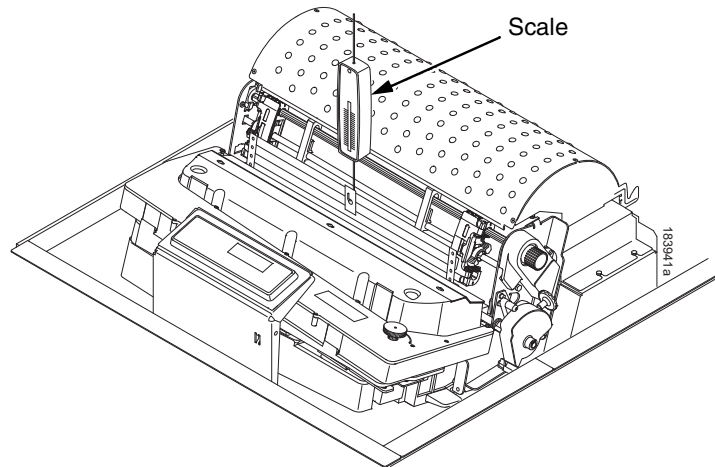

Figure 18. Measuring Paper Tension
7. Insert the hook of a "fish scale" force gauge through the tape you installed in step 5. (Figure 18.)
8. Use the scale to pull the paper slowly straight up through the print station for about six inches and note the maximum force exerted on the scale. Do not pull any page perforations through the print station. (Figure 18.)